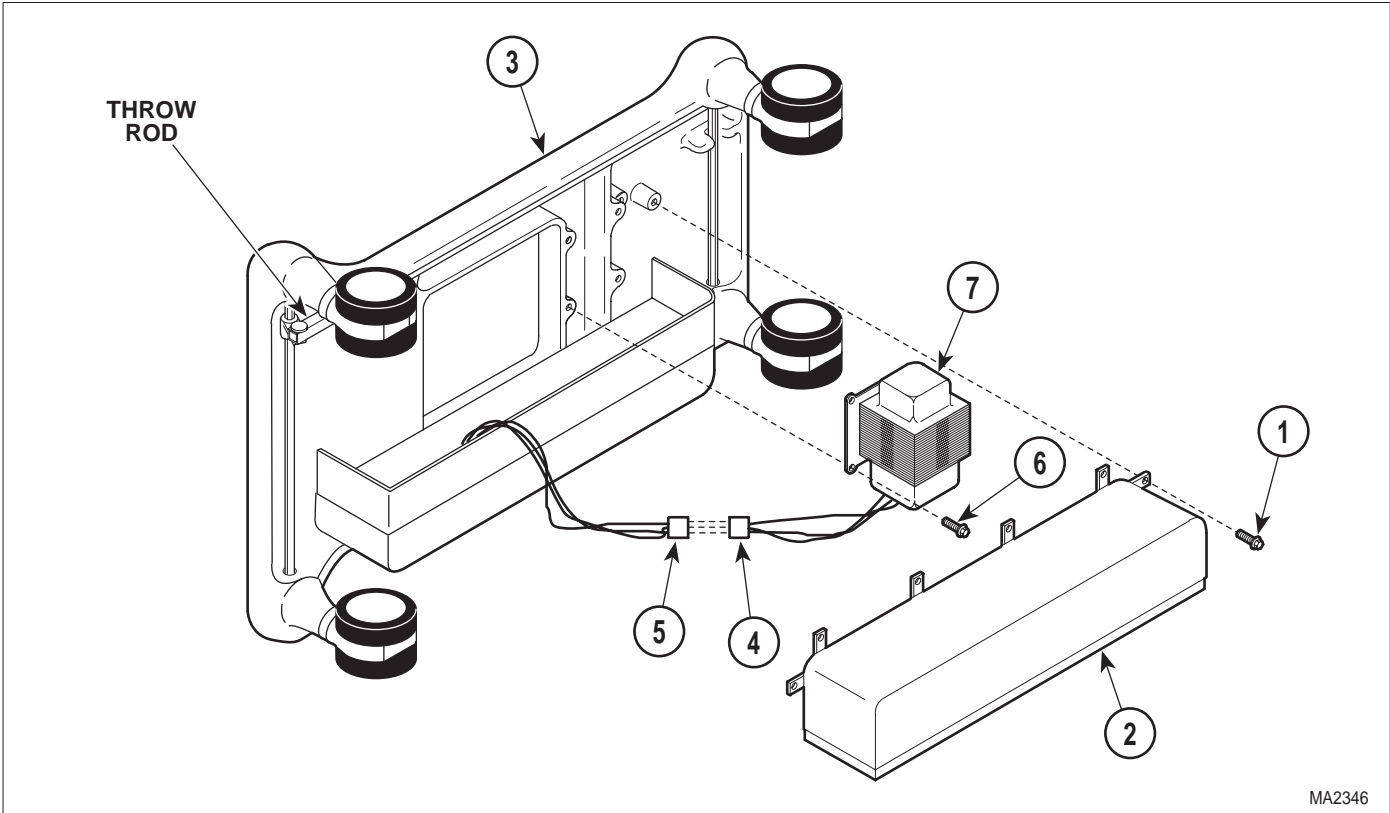

Figure 4-69. Isolation Transformer Removal / Installation
- (2) Remove six screws (1, Figure 4-69) and outer shroud (2) from base casting (3).
- (3) Disconnect transformer wire harness (4) from wire harness (5).